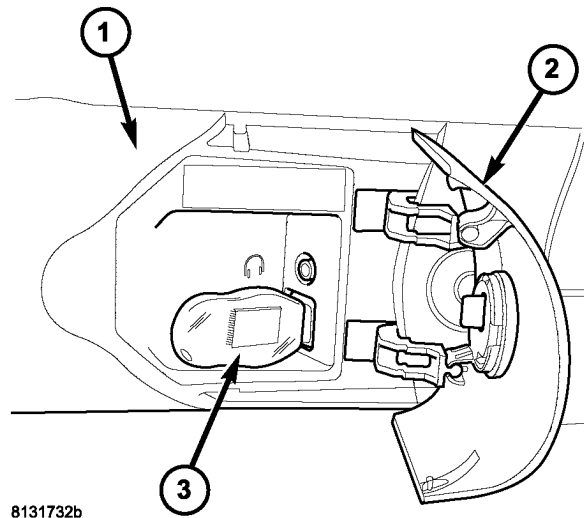

FIGURE 2 - USB KEY AND TECHCONNECT PC
2. Insert the USB Key, into the USB port on the TechCONNECT or equivalent PC (Figure 2).